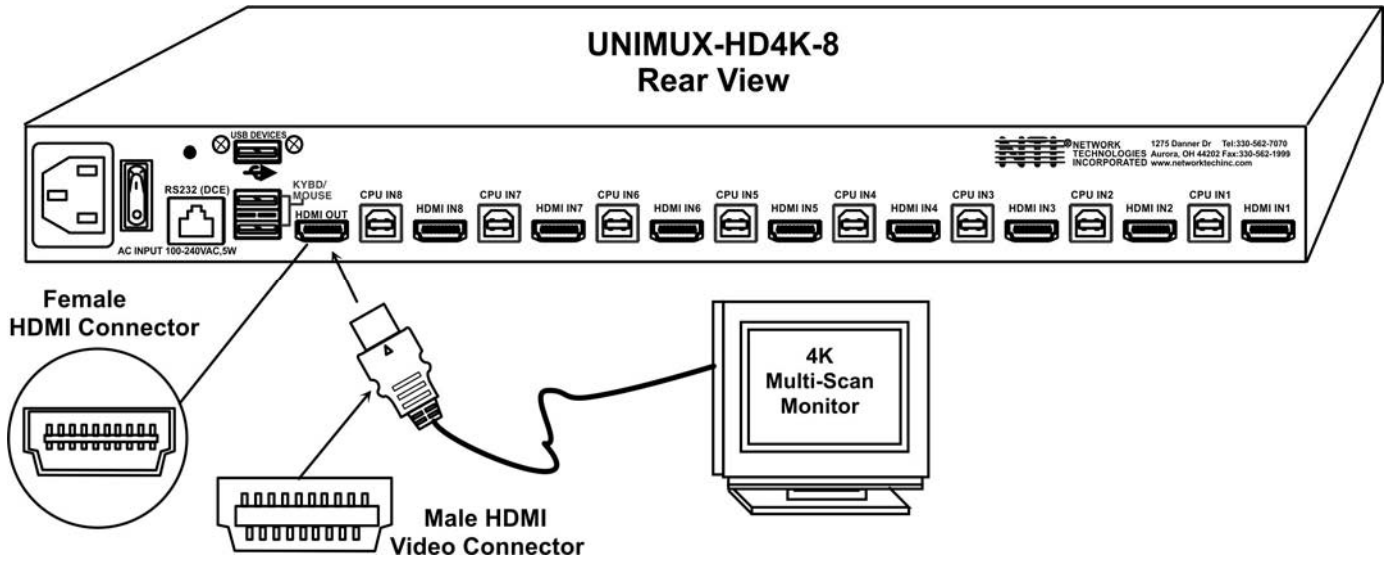

Figure 3- Connect a VGA multi-scan monitor
2. Connect the cable from a monitor to the HDMI connector labeled "HDMI OUT" on the UNIMUX (See Fig. 3 below.)